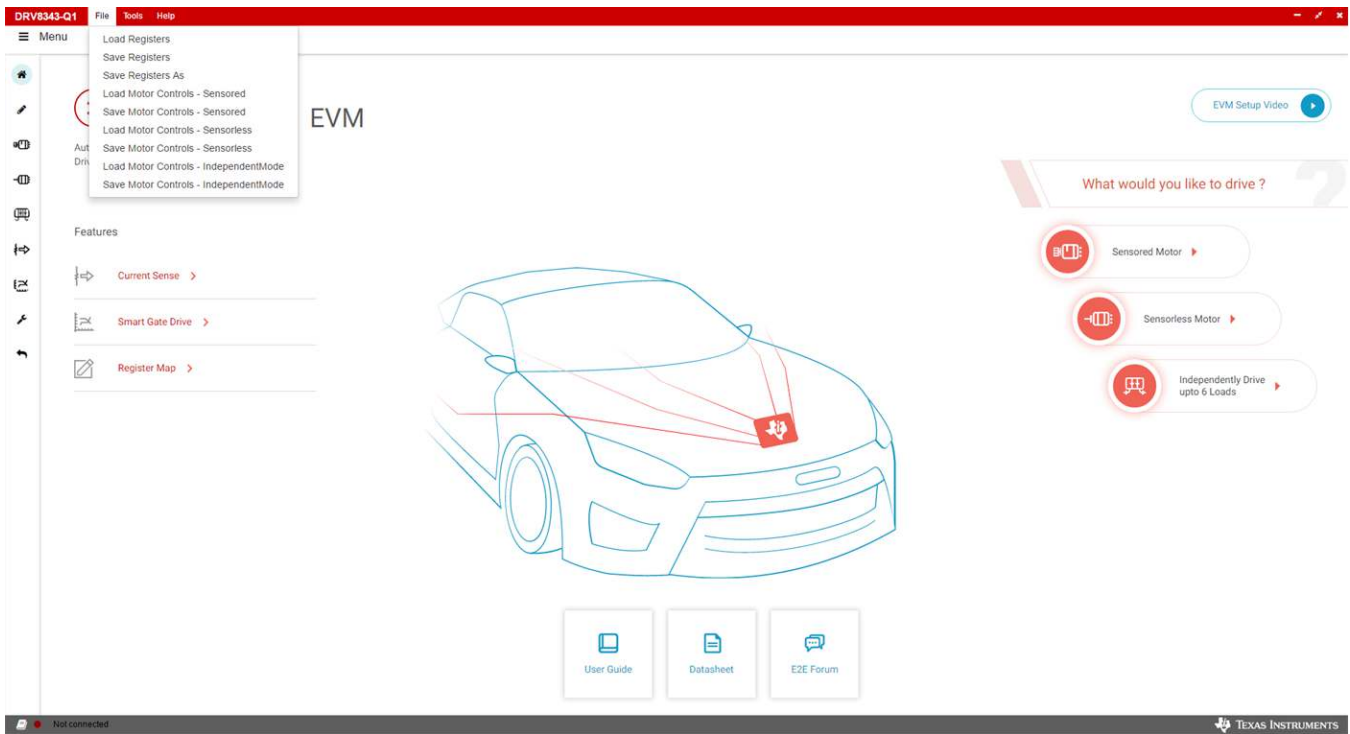

Figure 13. DRV8343x-Q1EVM GUI (File Toolbar Menu)
- File—Different options in this menu are available to load and save from and to a JSON file respectively: the register values on the register page, sensed motor control settings, sensorless motor control settings, and independent mode motor control settings as shown in Figure 13.